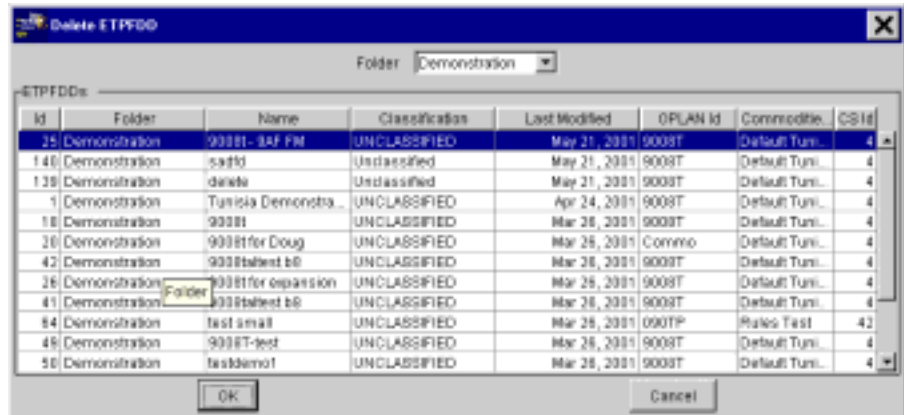

Figure 5.18 Delete ETPFDD Window
1. On the ETEdit (main) window, on the File menu, click Delete. The Delete ETPFDD window opens (Figure 5.18). Note: If an ETPFDD is loaded into memory, the line identifying the loaded ETPFDD in the ETPFDDs panel is highlighted. Otherwise, none of the lines are highlighted.